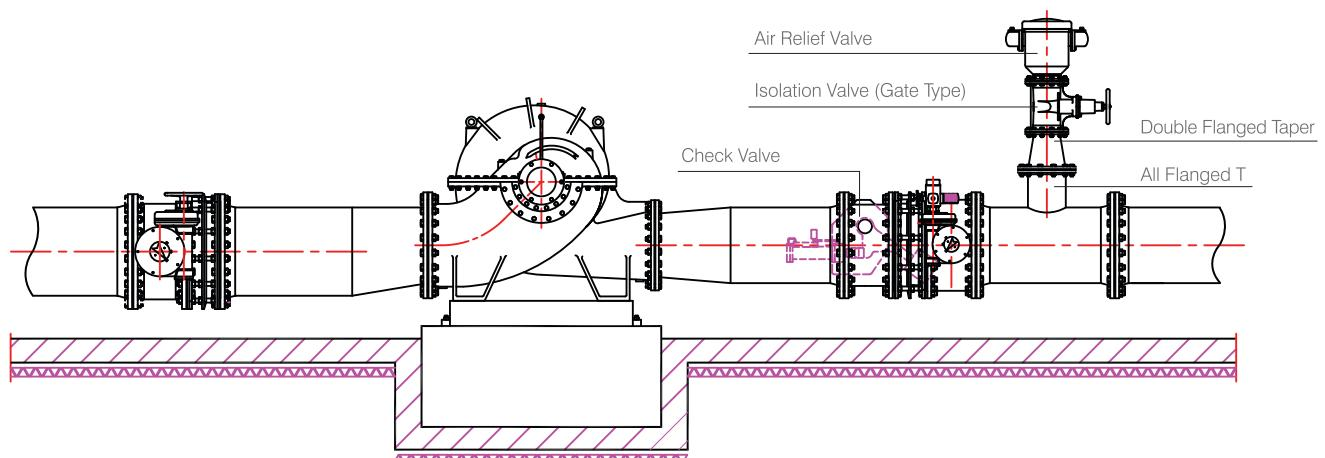

Figure 10: Placing air relief valve after check valve at pump outlet
- If there is any existing pump in pipeline, then there should also be a check valve. Air relief valve to be placed at discharge line will prevent vacuum formation when the check valve closes (Figure 10)